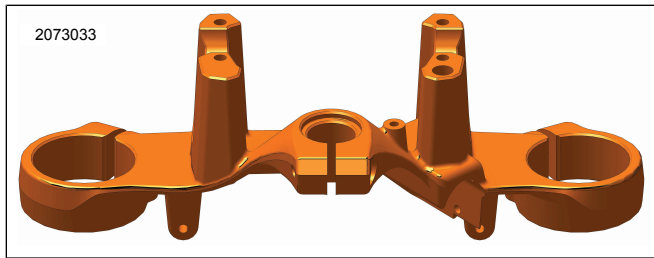
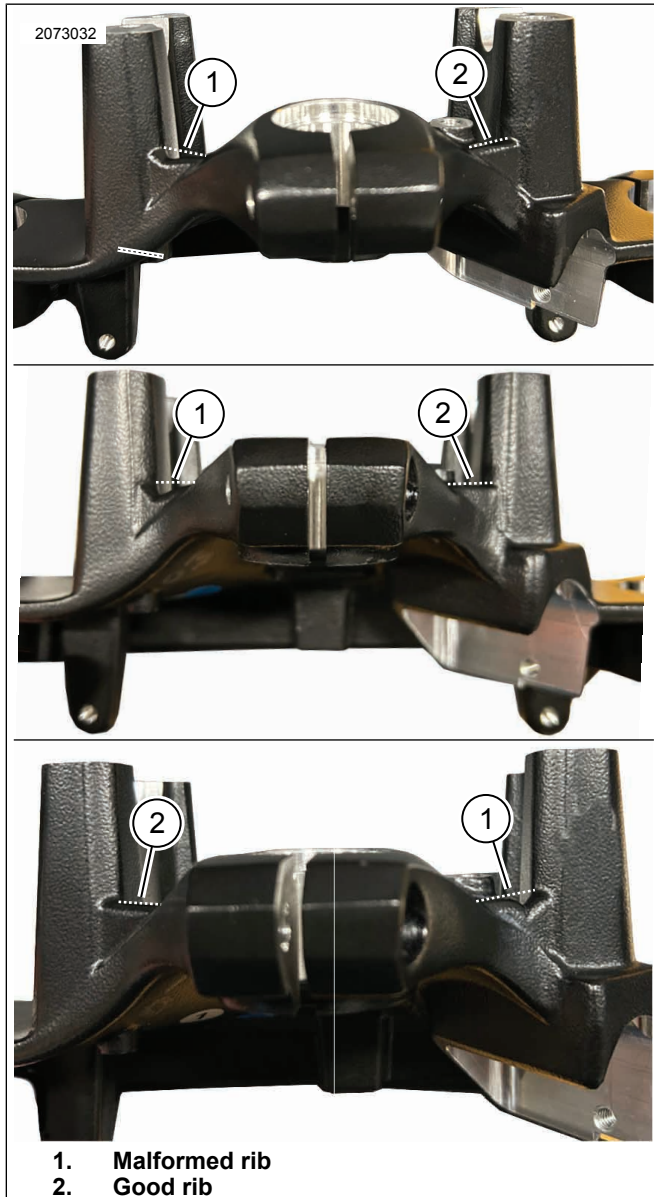

Figure 7. Upper Triple Clamp with Missing Ribs
Figure 8. Malformed vs Good Casting Ribs
- c. See Figure 7 and Figure 8. If ribs are missing or not fully formed (malformed), the upper triple clamp will need to be replaced using Recall 0190 Kit (Part No. 91500125) and a REPAIR claim made to close the recall.